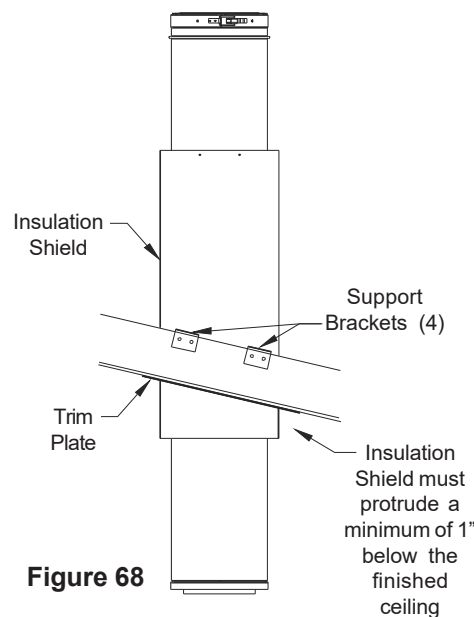

Figure 68
3. Install the Insulation Shield and secure to the framed opening from above with appropriate screws (not supplied). See Figure 68.
- NOTE:** The Insulation Shield must protrude below the finished ceiling a minimum of 1" into the room (see Figure 68).